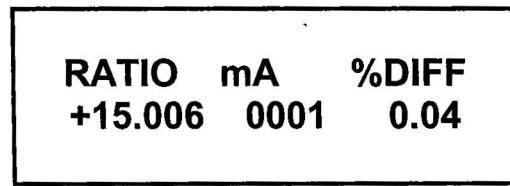

Figure 14-7. Test Result Display
a. Description: The ATRT-03/03A/03B displays the transformer winding polarity, turns-ratio, excitation current (in millamps), and turns-ratio error percentage. A typical turns-ratio test-result screen is shown on Figure 14-7 above.
- b. Origin:** Menu appears after operator presses any key from "Transformer Turns-Ratio Test Result Display Menu" (Figure 14-7).